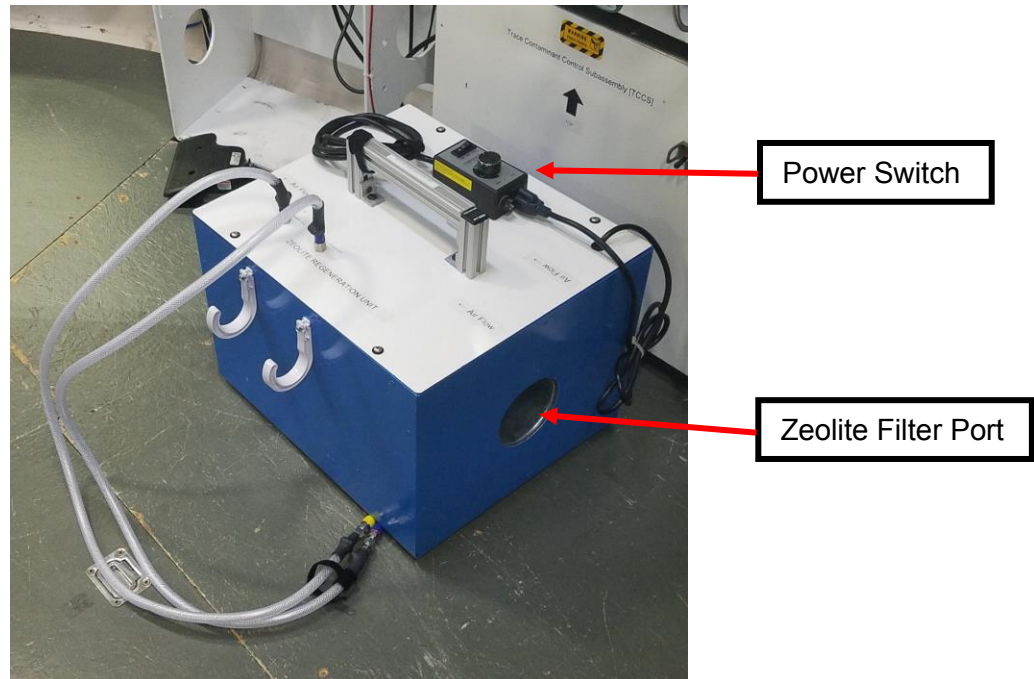

Figure 5: Zeolite Regeneration Unit (ZRU)
- 4.1 Move Zeolite Regeneration Unit (ZRU) in front of Sabatier (see Figure 5).
5.1 Open ZRU port and check that it is empty. (See Figure 5)